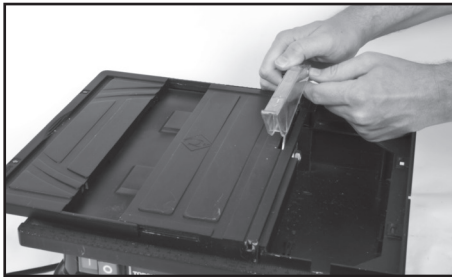

FIGURE 3
11. Replace the knob into the blade guard. (See FIGURE3)